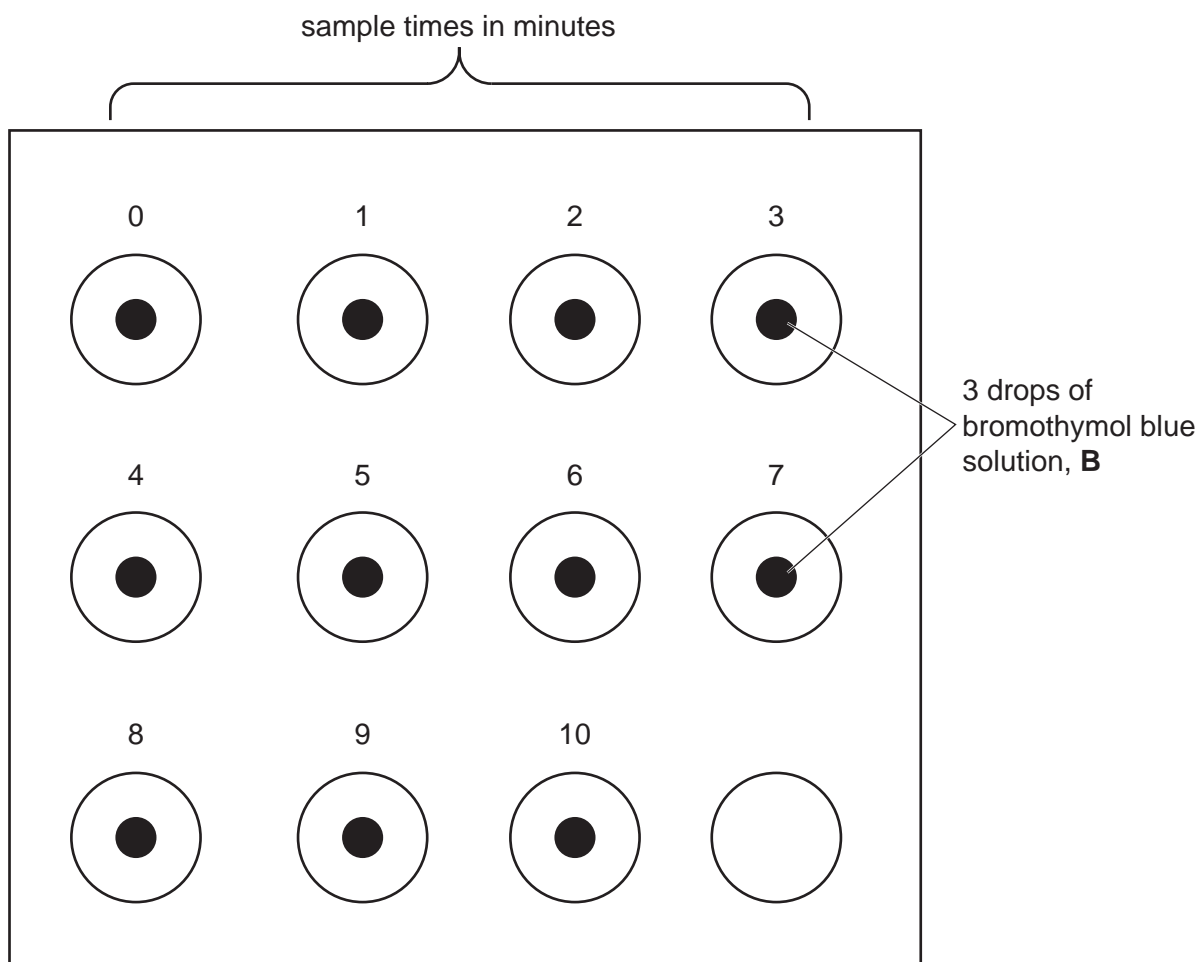

Fig. 1.2
step 6 Label the spotting tile (dimple tile) with the sample times in minutes, as shown in Fig. 1.2.
step 7 Put 3 drops of **B** onto the spotting tile at each sample time, as shown in Fig. 1.2.